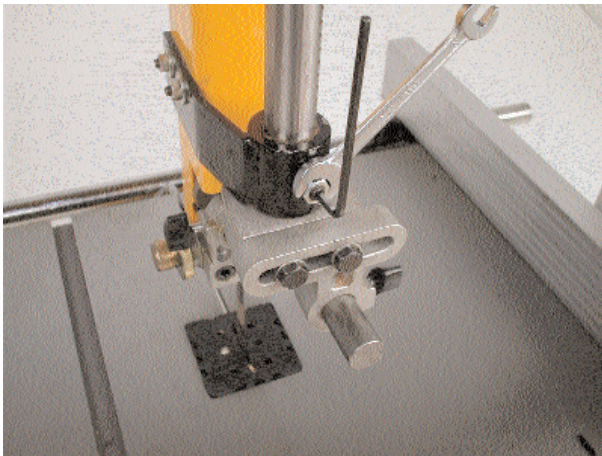

Fig. 2A
2. Move the blade guard up away from the existing blade guide system. See Figs. 2A and 2B. This will allow you access to the guides.